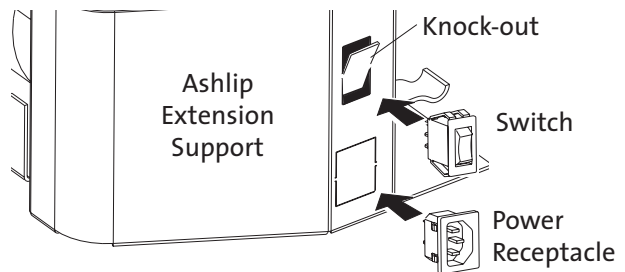

Figure 14. Remove knock-outs and install inserts.
2. Insert Switch and Receptacle: Determine on which side of the ash lip extension you wish to install the power cord and switch. The snapstat must also be installed on that side. Use a flat head screwdriver and pliers to pry the knockouts from that ash lip support. Work from the inside, to avoid marring the outside surface. Insert the Power Switch in the upper hole, and the Power Cord Receptacle into the lower hole. See fig. 14.